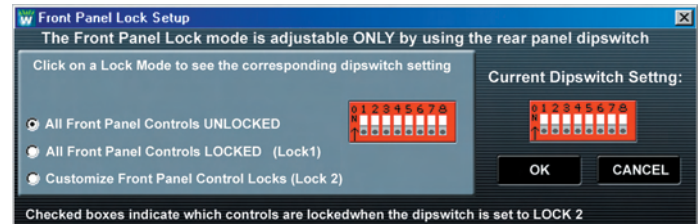

Fig. 13h - Active Channels Window - All Channel View
- **Simultaneous multiple channel/system monitoring.** The Remote Software “All Channel View” (figure 13h) shows all important status conditions for up to 70 transmission channels. Color-coded warnings and alerts draw attention to potential problems.
Shows the All Channel View as a (vertically) resizable window (figure 13h).